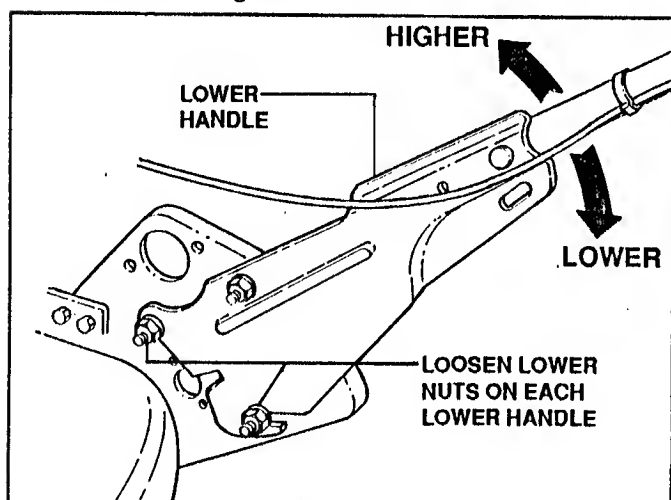

FIGURE 2.4
1. Loosen the lower nuts on each lower handle as shown in Figure 2.4.